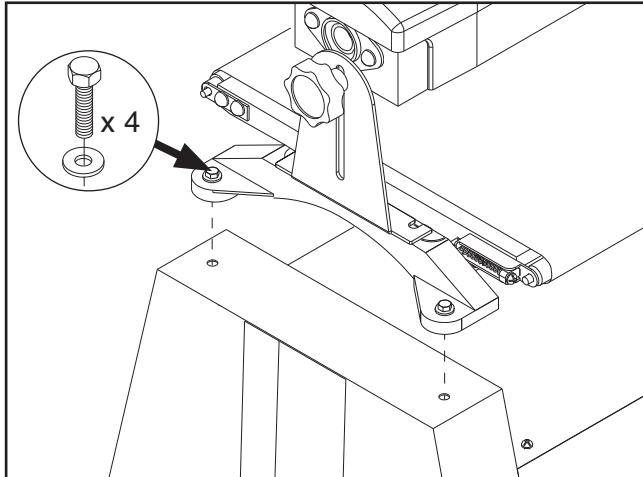

Figure 15. Attaching sander to cabinet.
12. Place sander on stand and attach with (4) M8-1.25 x 40 hex bolts and 8mm fender washers (see **Figure 15**).